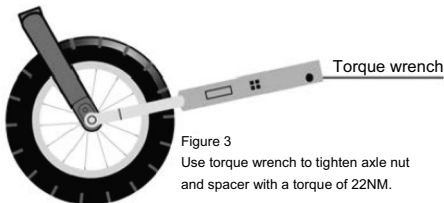

Figure 3
3. Use torque wrench to tighten axle nuts and spacers with a torque of 22Nm. (Figure 3)